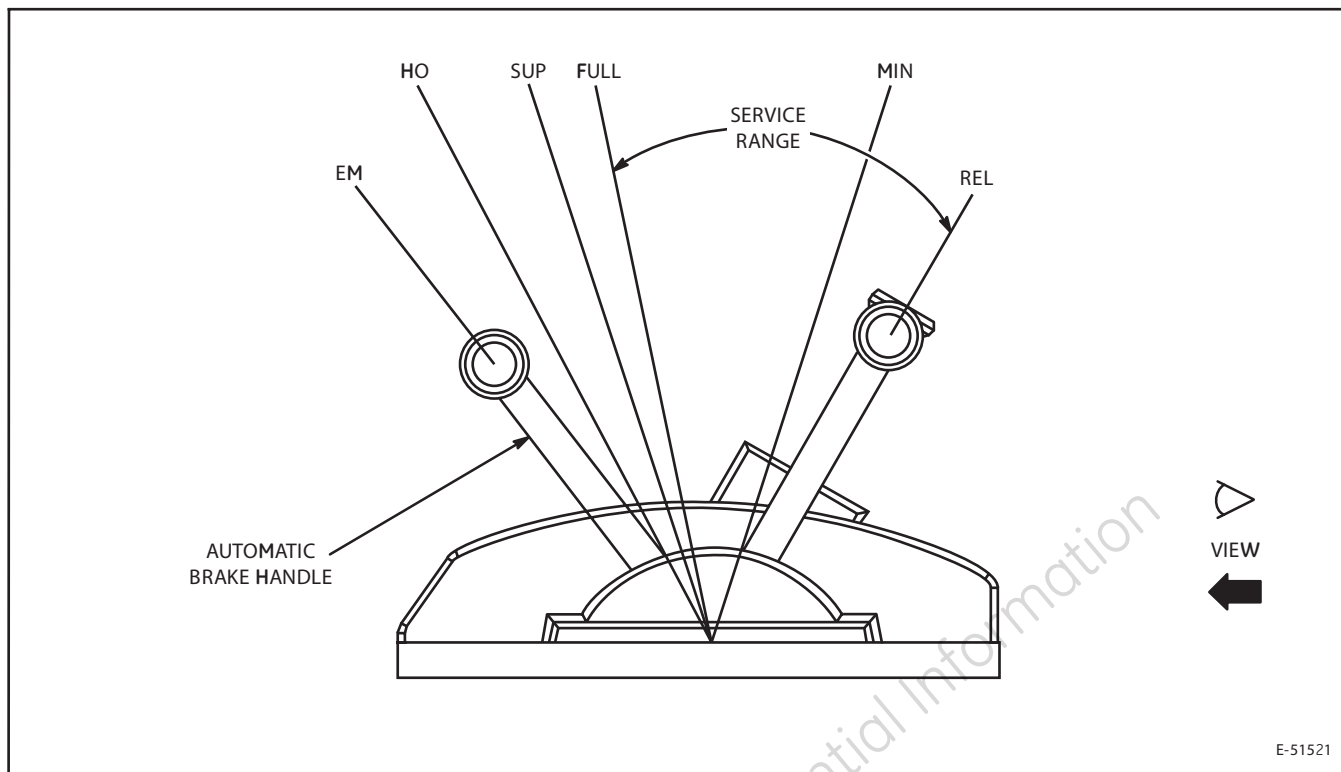

Figure 8. Automatic Brake Handle Positions.
The Automatic Brake handle (Figure 8) operates through a series of detented control positions: RELEASE (REL), MINIMUM REDUCTION (MIN), FULL SERVICE (FULL), SUPPRESSION (SUP), HANDLE OFF (HO), and EMERGENCY (EM). During train movement, the normal operating range of the Automatic Brake Handle is between MINIMUM REDUCTION (MIN) and FULL SERVICE (FULL). The operating positions are indicated by a plate located next to the handle. The Automatic Brake is graduated in both apply and release. A description of these positions follows:
2. MINIMUM REDUCTION (MIN) Position - When making a Service Brake application, move the Automatic Brake handle toward the MIN position. The MINIMUM REDUCTION position provides a 6.0 to 8.0 psi (.41 to .55 bar) equalizing reservoir (ER) pressure reduction (note on the SDIS: BRAKE CYLINDER reading 10 to 14 psi or .69 to .96 bar showing pressure has been developed). If necessary to increase the reduction, move the Automatic Brake handle progressively toward the FULL position, bearing in mind that the further the handle is moved into the service zone, the greater will be the reduction. The system will automatically maintain any brake pipe leakage.